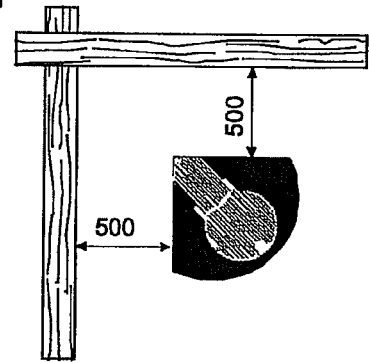

Figure 1
1. The minimum safe clearance from the sauna heater's unshielded vertical surfaces is 500 mm (**20 in**) and from upper surfaces 600 mm (**23 ¾ in**). (Figure 1)